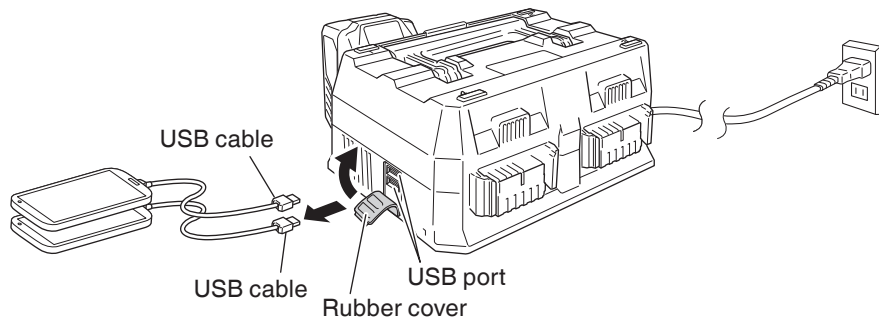

Fig. 7
(4) When charging is completed (Fig. 7)
- Turn the USB power switch OFF and unplug the power cord from the electrical outlet. (Fig. 7)